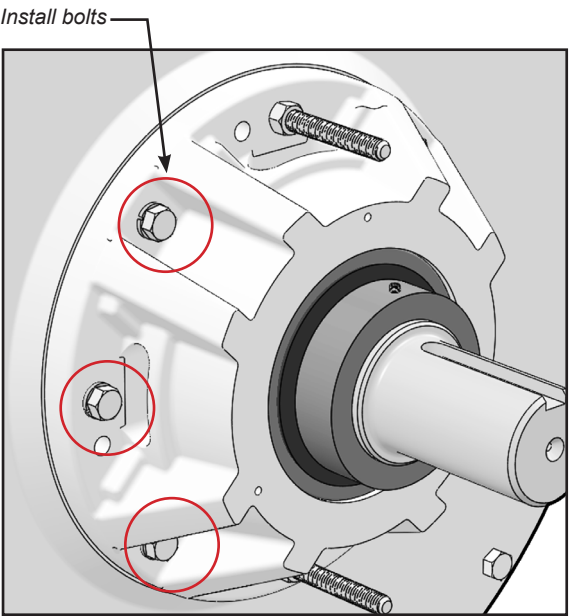

FIGURE 19
- 26. Once the cartridge is close to the endplate install bolts on the six available holes, drawing the cartridge onto the endplate (Figure 19). Alternately tightening 1/4 turn at a time.